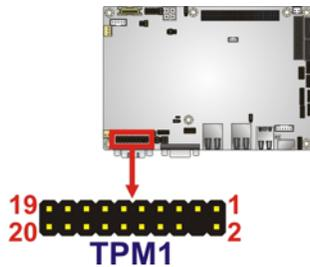

Figure 3-22: TPM Connector Pinout Locations
- CN Location:** See **Figure 3-22**